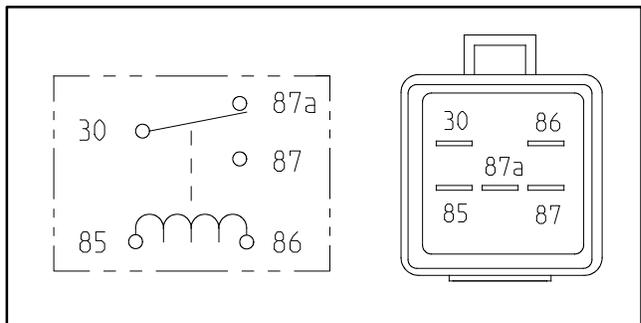

Figure 14
1. Verify coil resistance between terminals 86 and 85 with a multimeter (ohms setting). Resistance should be approximately 80 ohms (Fig. 14).